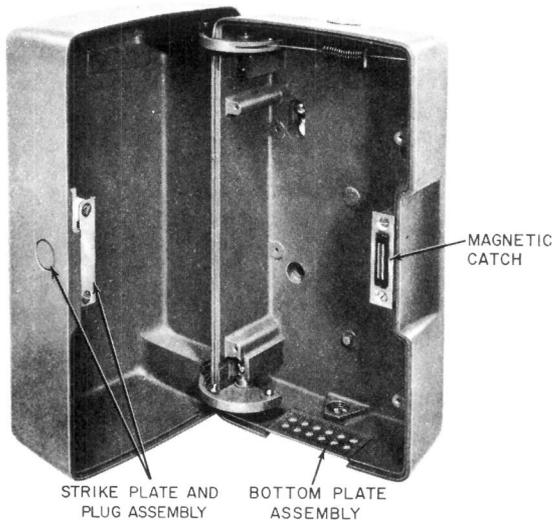

Fig. 3—526A Housing Assembly
- 2.08 526A Housing Assembly (Fig. 3 and 4)**